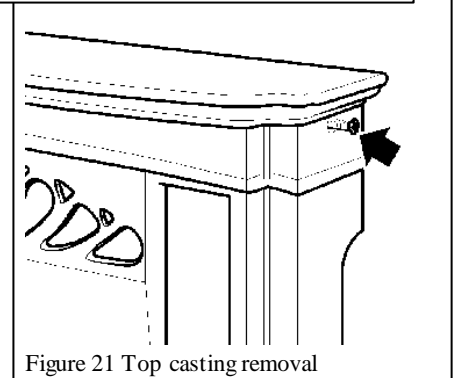

Figure 21 Top casting removal
- The top casting will have to be removed to insert the tile set. To remove it, unscrew the two screws at the top of the side castings until they are loose enough to allow the top to be lifted off. There is no screw thread in the top casting only in the side castings. See figure 21